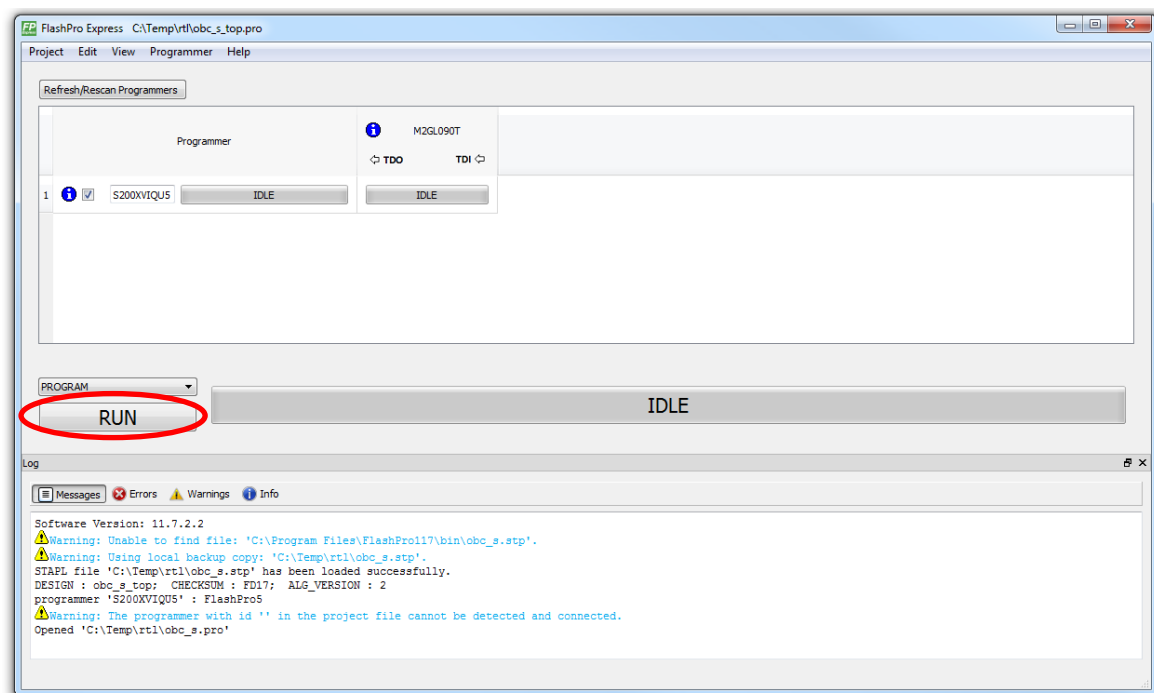

Figure 10-2 - View of FlashPro Express with project loaded.
- Once the file has loaded (warnings might appear), click RUN (see Figure 10-2). Please note that the connected FlashPro5 programmed ID should be shown.